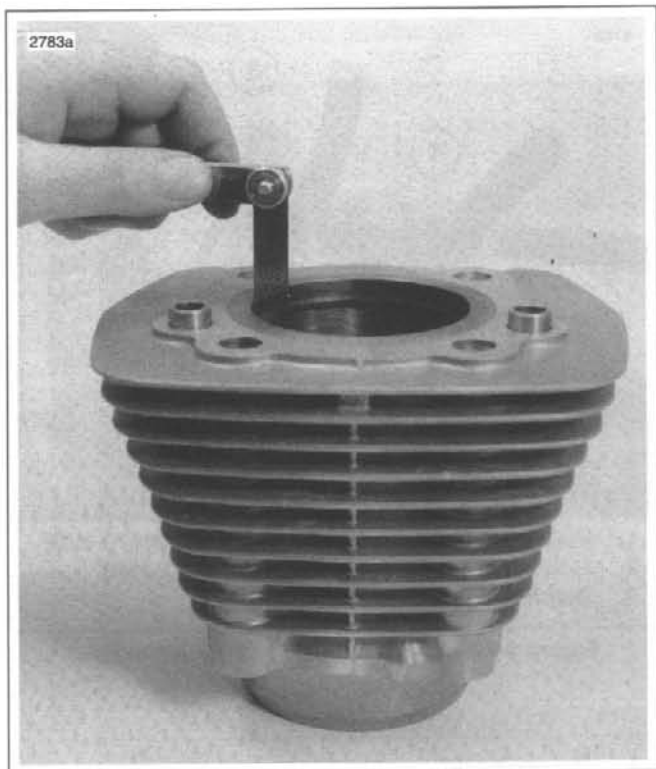

Figure 3-36. Measuring Ring End Gap
1. See Figure 3-36. Place piston in cylinder about 1/2 in. (12.7 mm) from top. Set ring to be checked squarely against piston as shown. Check end gap with thickness gauge. See 3.1 SPECIFICATIONS for tolerance.